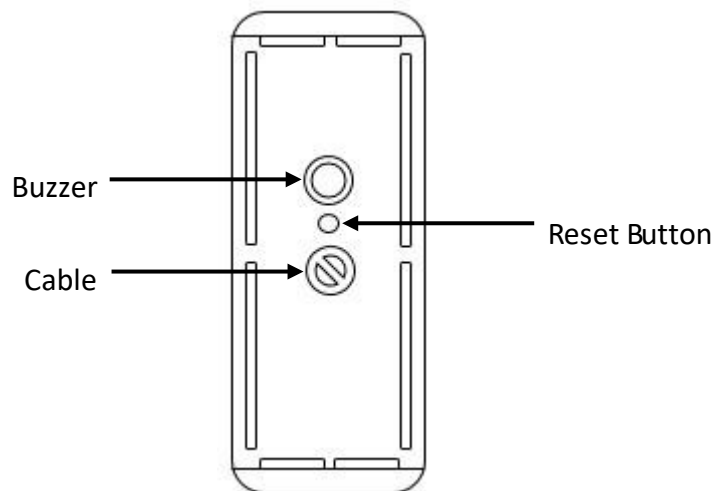

Figure 1: Reset button is located on the back of the reader between the buzzer and cable.
1. To locate the reset button on the reader, dismount from the installation points. The reset button is located on the back of the reader, as depicted in Figure 1.
1. To locate the reset button on the reader, dismount from the installation points. the reset button is located on the back of the reader, as depicted in Figure 1.